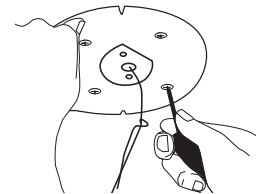

Figure 4
4. Use the 4 included screws to secure the mounting plate to the ceiling (Figure 4).